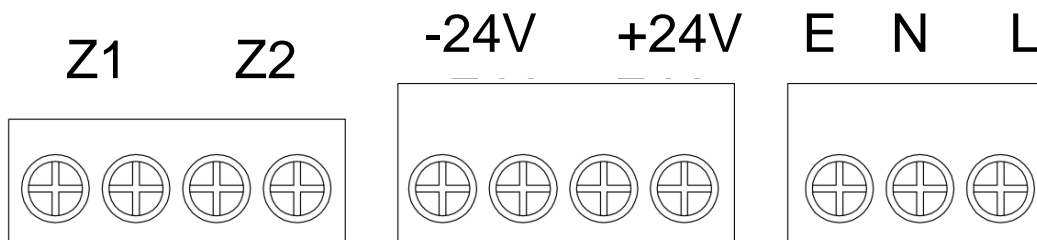

Fig 5 Wiring Terminal
3. Wiring: Connect the power cable to the wiring terminals through the knock-off holes on the top side or back side of the PSU. The wiring terminals are described in Fig 5.